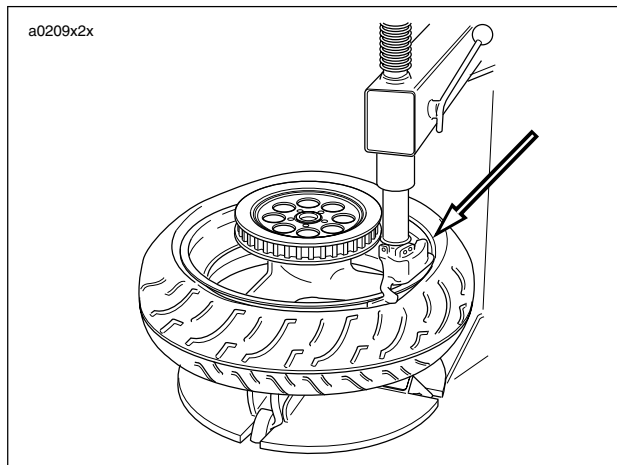

Figure 2-32. Starting Bead on Rim (Typical)
4. See Figure 2-32. Starting at the valve stem, start first bead into the rim well using a bead breaker machine. If no machine is available, work bead on as far as possible by hand. Use a tire tool to pry the remaining bead over rim flange.